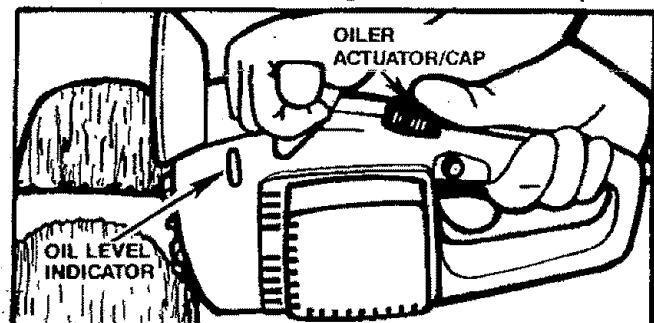

Figure 15
- e. Check the oil level indicator frequently during use. Locate the indicator in the saw frame just below and behind the front handle. Figure 15. If oil is not visible in the slot when saw is upright on a level surface, the tank requires filling.
Your saw is equipped with an oiler actuator/cap which manually supplies oil to the bar and chain. Figure 15. The oiler actuator/cap must be used regularly and often enough to maintain a thin film of oil on the bar and chain while the saw is cutting. It is recommended that the oiler actuator/cap be operated six (6) times a minute and held for approximately three (3) seconds each time it is pressed.
- a. Operate the oiler by pressing down on the oiler actuator/cap with your right thumb. Figure 15.